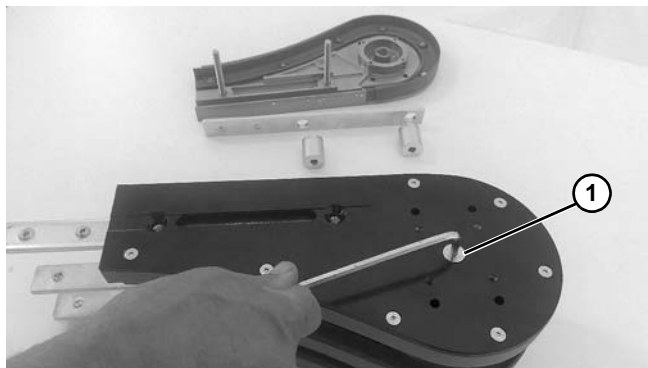

Figure 113
3. Remove flat head screw (**Figure 113, item 1**).